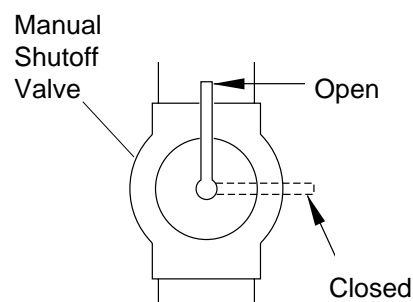

Figure 19 - Manual Shutoff Valve
1. Close manual shutoff valve (see Figure 19).
1. Open manual shutoff valve (see Figure 19).
4. Wait five (5) minutes to clear out any gas. Then smell for gas, including near the floor. If you smell gas, STOP! Follow “B” in the safety information at the top of page 19. If you don’t smell gas, go to the next step.
5. Turn control knob counterclockwise  to the PILOT position. Press in control knob for five (5) seconds (see Figure 19, page 19).